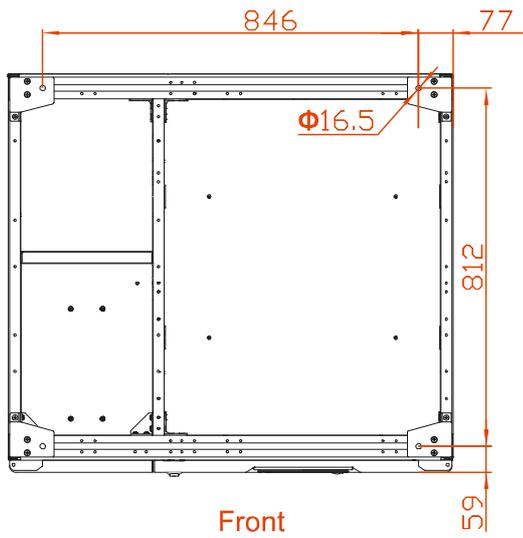
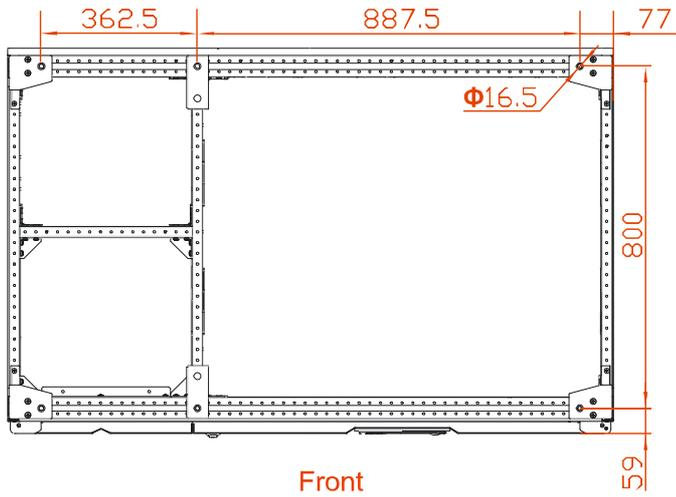
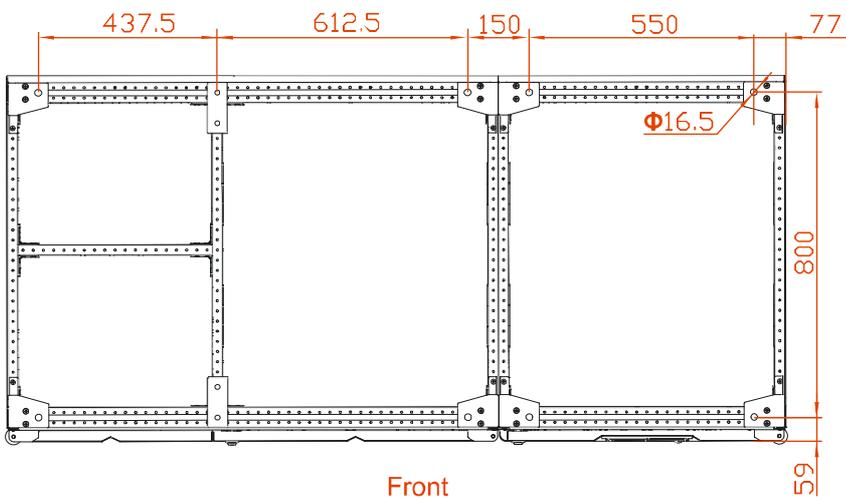

Figure3-11 Pedestal installation size of BM33300, BM33400 (unit: mm)
Figure3-12 Pedestal installation size of BM33500, BM33600 (unit: mm)
Figure3-13 Pedestal installation size of BM33800 (unit: mm)
Step 2 Drill six $\phi 16.5$ holes on the ground by impact drill according to the installation hole size of pedestal (as shown in Figure3-11, Figure3-12, Figure3-13, Figure3-14).